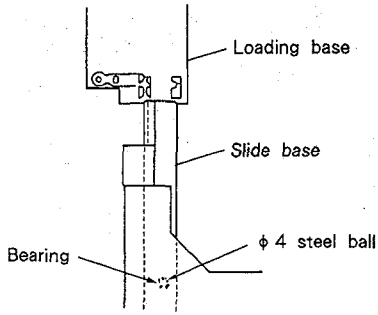
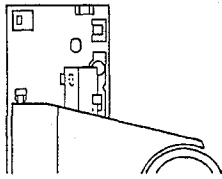

Fig. 7-9
Fig. 7-10
<p>Re-mount the disc tray according to the following procedure when the grating adjustment is complete.</p> <ol style="list-style-type: none"> <li>1. Remove the disc and the spacer.</li> <li>2. While lifting the clamp holder [marked ③ in Fig. 7-4] with the right hand, hold the tray in the left hand as indicated by ④ and slide the slide base into the hard resin fittings on the loading base as shown in Fig. 7-9 to re-insert the disc tray.</li> </ol> <p>At this time, be sure to hold the steel ball in place with the index finger of the left hand. Also, be careful that the front panel is not damaged by the slide base and bearing of the steel ball's bearing (in the slide base) coming into contact with the panel.</p> <ol style="list-style-type: none"> <li>3. Insert the slide base so that it fits into the two hard resin fittings at the rear of the loading base (see Fig. 7-10).</li> <li>4. Insert the tray tightly.</li> </ol>